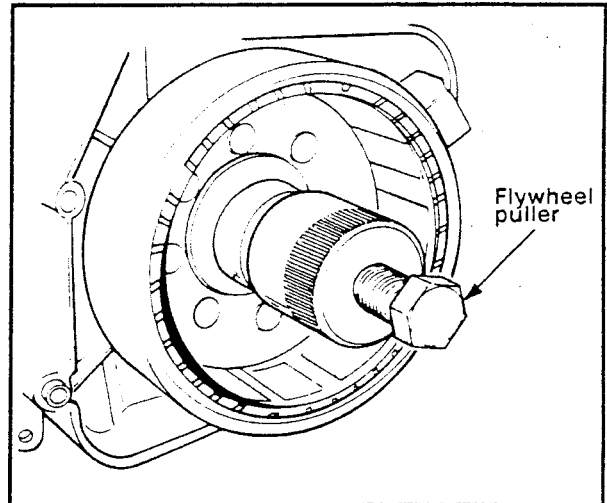

Figure 4-2. Flywheel (Magneto) Removal
2. See Figure 4-2. Remove the flywheel retaining nut and washer and install the puller from the service tool kit on the magneto. Tighten puller bolt, while tapping